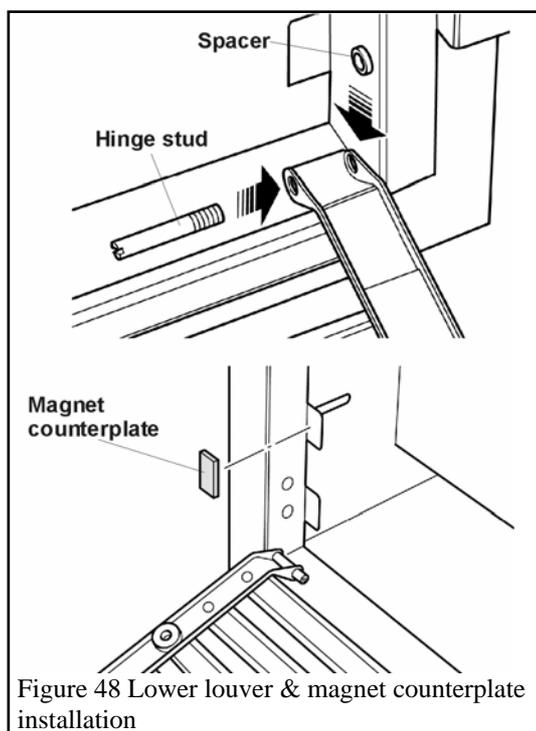

Figure 48 Lower louver & magnet counterplate installation
- Fit the lower louver unit using the hinge studs and hinge spacers as shown in figure 48.
- Fix the two adhesive backed magnet counterplates to the tabs at the firebox sides which line up with the magnets on the lower louver. See figure 48.